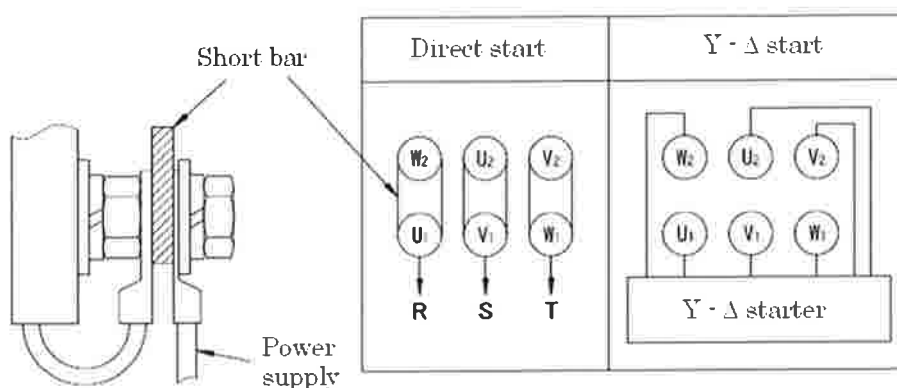

Fig. 2 Connecting diagram
- For connection between the power cable and lead wires of motor, please refer to "Fig.2".